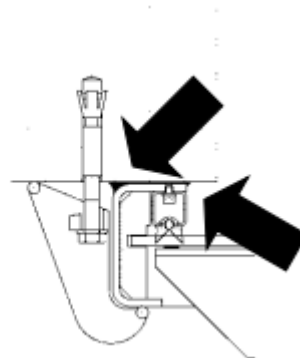
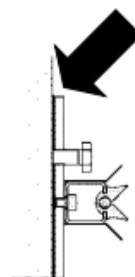
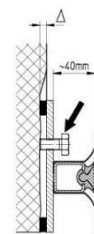

Fig. 5
Fig. 7
Fig 7a
- When tightening the bolts, the sealant gets squeezed out on both sides of the frame. Smoothen sealant with finger to a clean grout (Fig. 5).
- For Sluice gate valves with transverse seal an additional grout is necessary after tightening between wall and transverse seal acc. Fig. 7. Irregularities in the construction, in the area of the cross seal, can result in the contact pressure of the cross seal on the panel being too low. The pressure of the seal can be optimised using the hexagonal screw. (Fig. 7a).
- After mounting the actuating components (acc. 3.4) the Sluice gate valve shall be opened and the sealant on the inside of the frame and transverse seal shall be smoothed to a clean grout acc. Fig. 5 and Fig. 7.